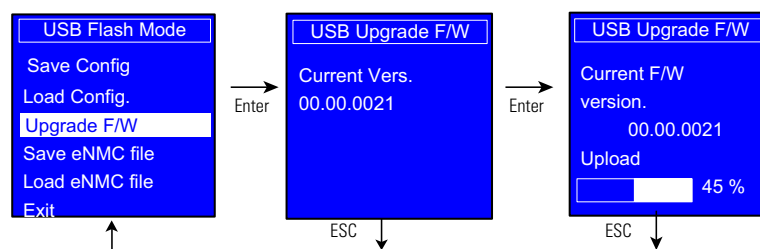

Figure 60. Example Upgrade
7. A few seconds after 100% is reached, the eNMC module restarts and then enters in Boot upgrade mode to continue upgrade. The upgrade is finished when eNMC module is restarted. This can take several minutes (see Figure 60).